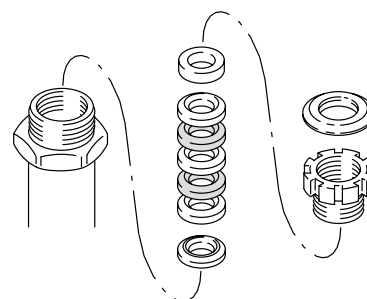

Fig. 22
8. Remove and discard the throat packings and glands. See Fig. 22.